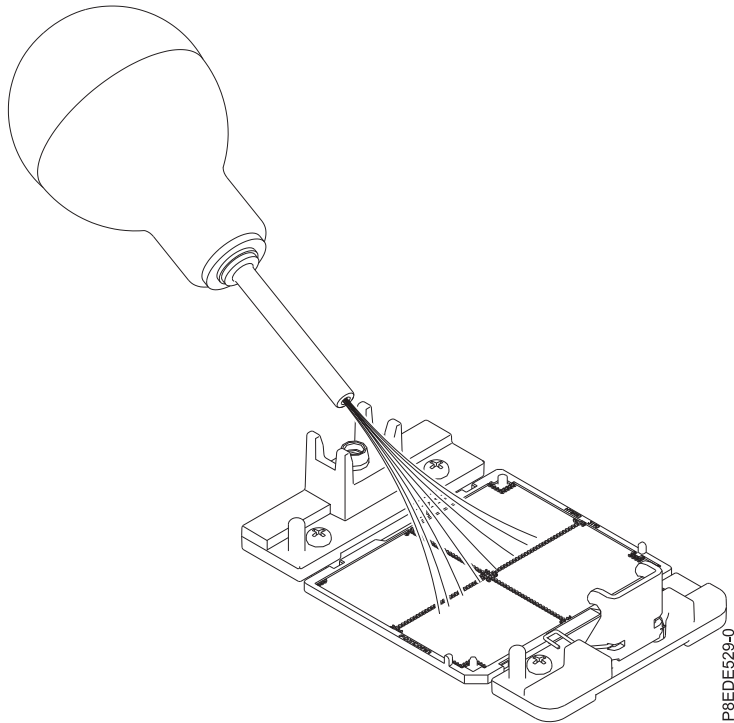

Figure 165. Removing dust and debris from the system processor socket
- a. If dust or debris is present on the system processor socket, use the supplied air pump (part number 45D2645) to clean the socket. Blow small bursts of air from the center toward the sides of the socket, as shown Figure 165 on page 145.